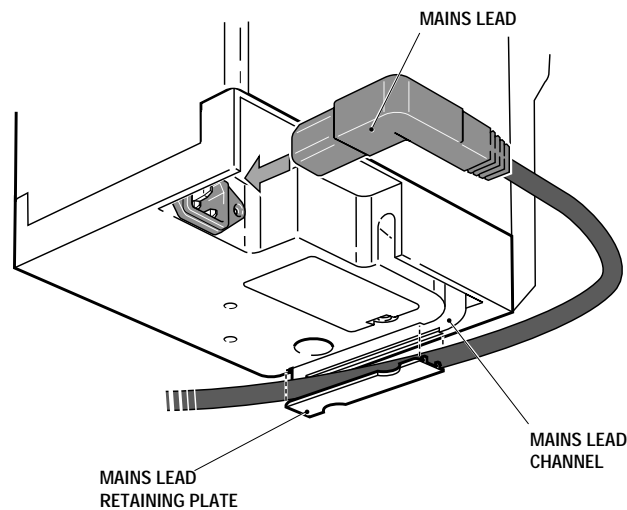

Fig. 11 Fitting The Mains Lead
3. Remove the mains lead retaining plate illustrated on Fig. 11 and fit the Datex-Ohmeda mains lead firmly into the socket of the vaporizer. Feed the mains lead into the mains lead channel and then clip the mains lead retaining plate back into the base.